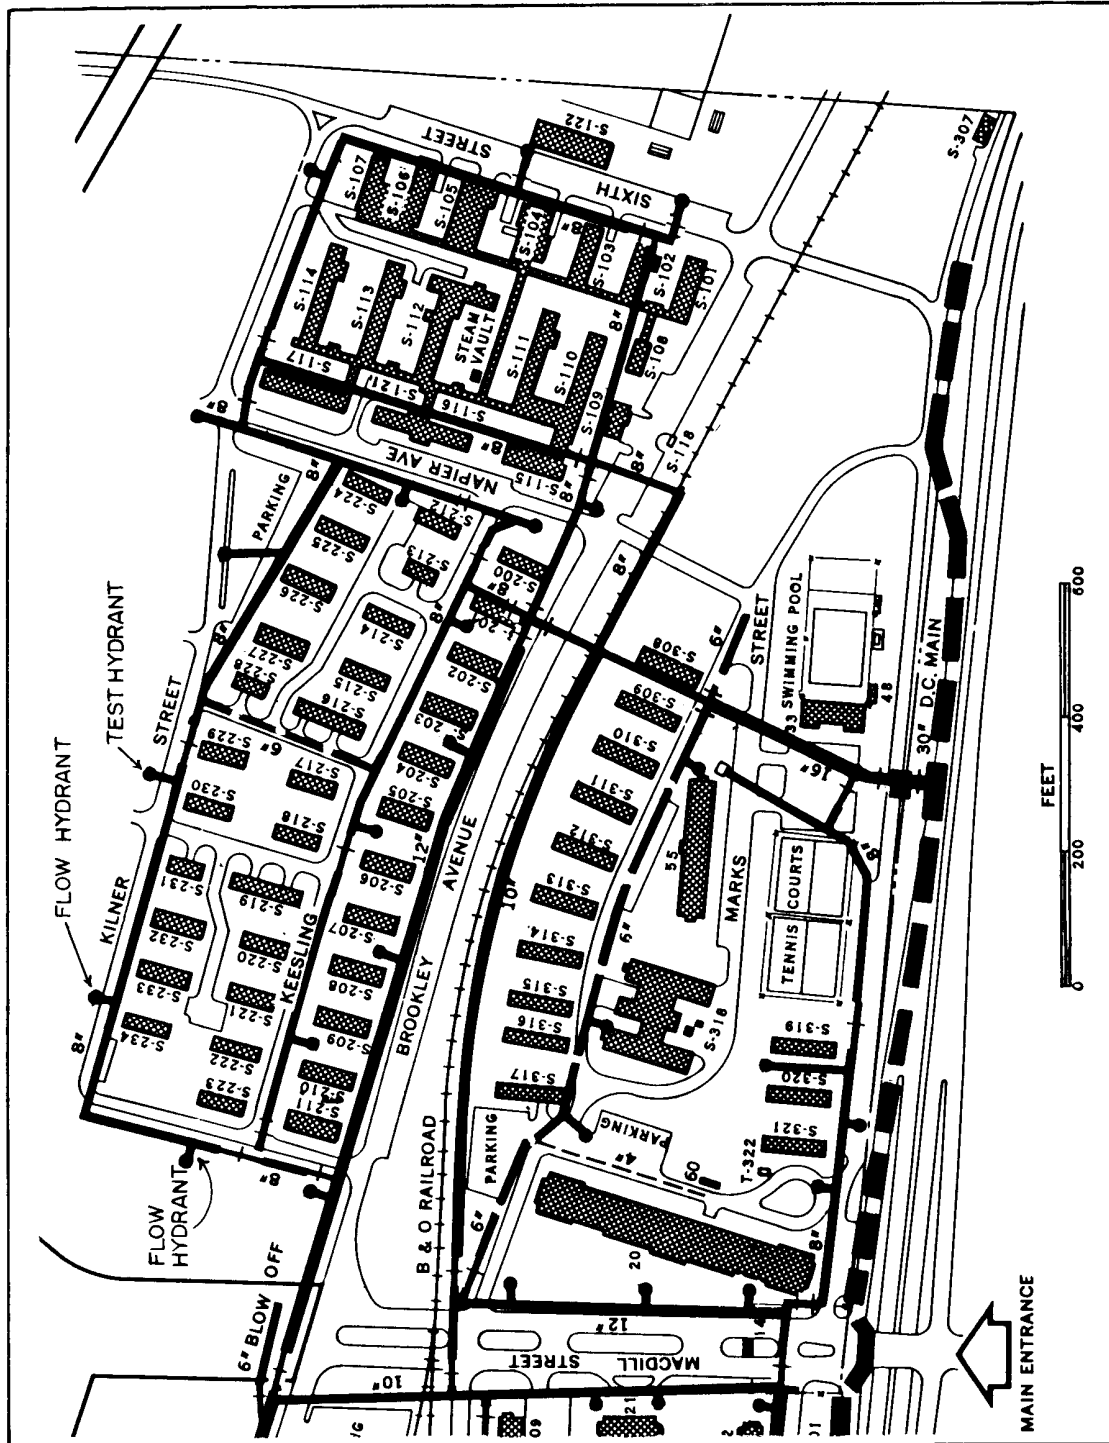

Figure 1, Base Utility Map
Step 1: Gather Base Utility Maps. (See Figure 1).